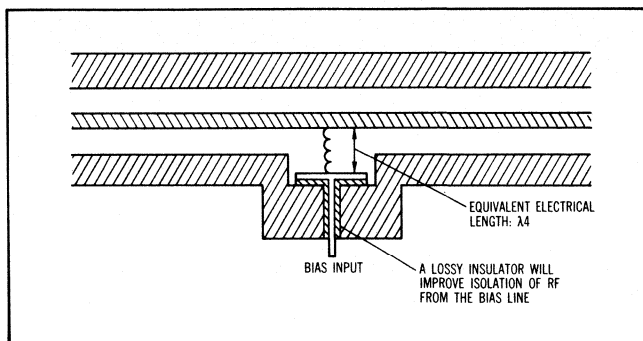

**Figure 19. Quarter-wave Bias Lines.**
(1) A  $\frac{1}{4}$  wavelength shunt transmission line can be used, as shown in Figure 19. The impedance of the shunt line should be high for maximum bandwidth. Reasonable impedance values give a good match over greater than one octave. The  $\frac{1}{4}$  wavelength line must be terminated by an RF short, which can be achieved by a large lumped capacitance or a  $\frac{1}{4}$  wavelength section of open circuited low impedance line. Excessively large values of bypass capacitance, which increase the isolation of RF from the bias port, also may slow the switching speed.